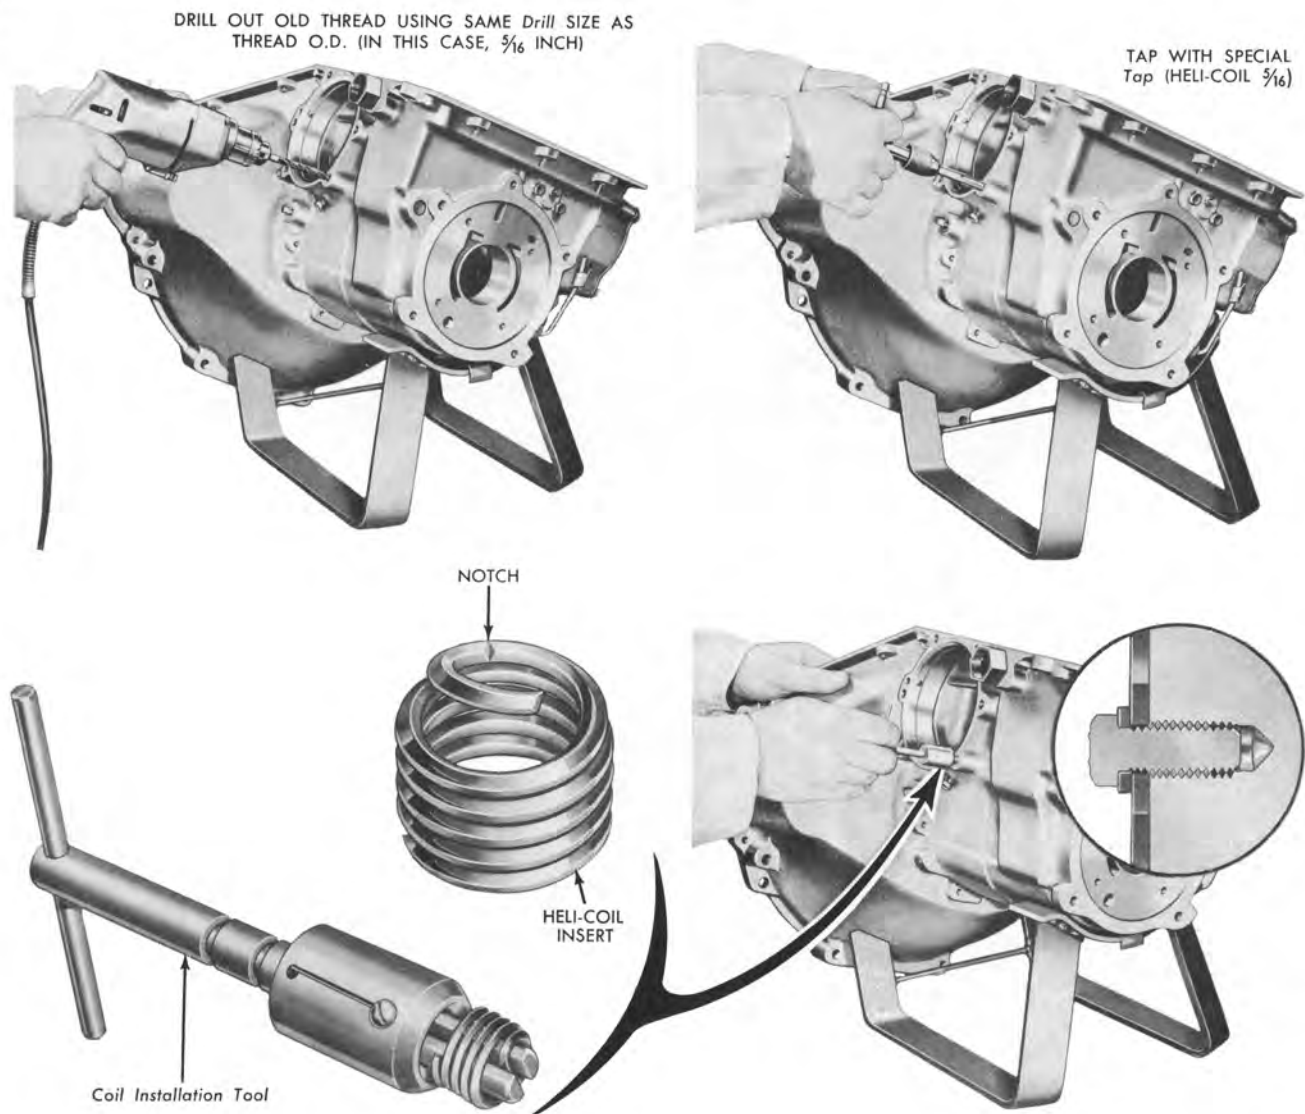

FIG. 24—Thread Repair Procedure
Figure 24 shows the procedure for repairing damaged threads. The repair system shown has been developed by the Heli-Coil Corporation of Danbury, Connecticut.
3. Select the proper coil inserting tool. These tools are marked with the thread size being repaired. Place the insert on the tool (Fig. 24) and adjust the sleeve to the length of the insert being used.
4. Working through the insert, bend the insert tang straight up and down until it breaks off at the notch (Fig. 24).